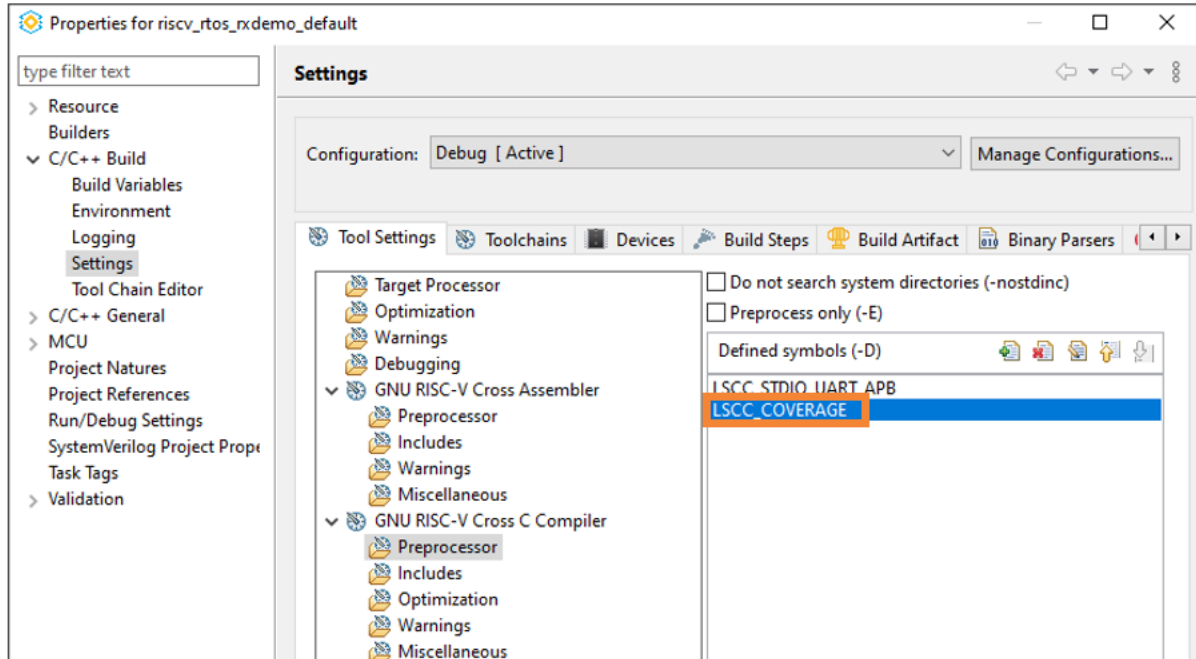

Figure 5.25. LSCC_COVERAGE Symbol
3. Select **GNU RISC-V Cross C Compiler > Preprocessor**. Add the defined symbol, `LSCC_COVERAGE` (Figure 5.25).